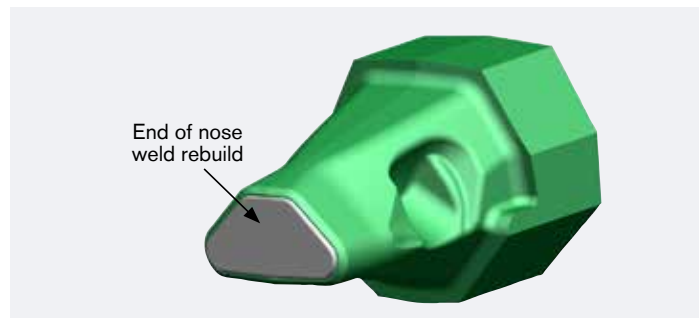

Figure 2
**Step 3** – Weld a layer of material approximately 3mm/0.12in. thick on the end of the nose as shown in Figure 2. Higher tensile strength filler material is recommended, such as E9018 or equivalent. At a minimum E7018 electrode or equivalent should be used.